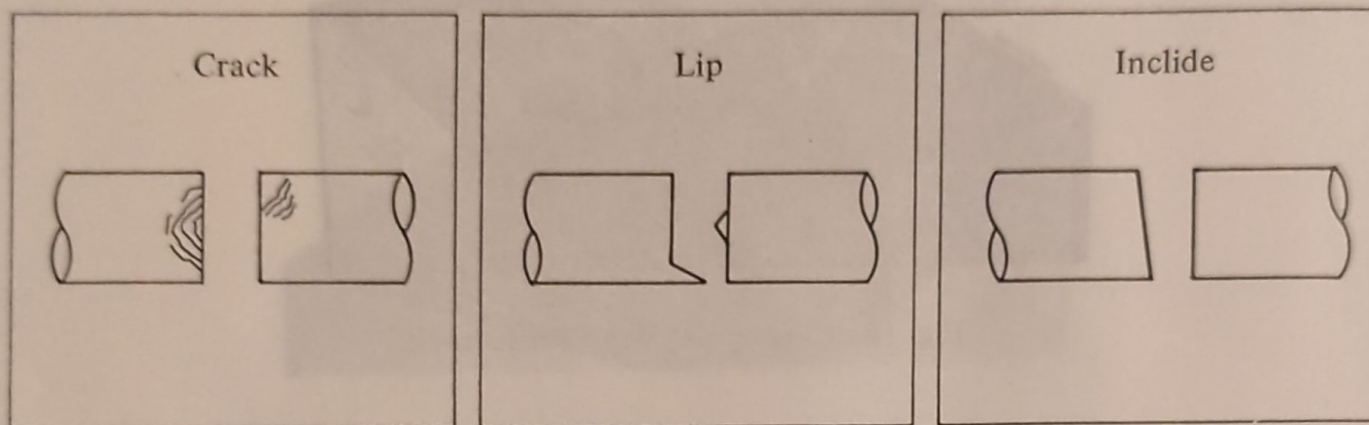

Fig. 19 End View of Optical Fiber
3.4.3 Observation on end faces condition in the X (Y) cross section
Check condition of the end faces on the monitor ③⑧. If the fibers have substantial dust on their surfaces, or resemble the end faces as shown in Fig. 19, then, clean the fiber using the ultra-sonic cleaner or cleave the fiber again and repeat the entire procedure.